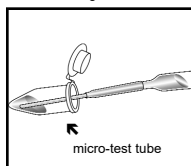

Figure 2
2. Fill the small micro-test tube approximately halfway with the sample to be tested (fig. 2).
4. Holding the VACUette almost horizontally, touch the tip to the contents of the micro-test tube (fig. 2).